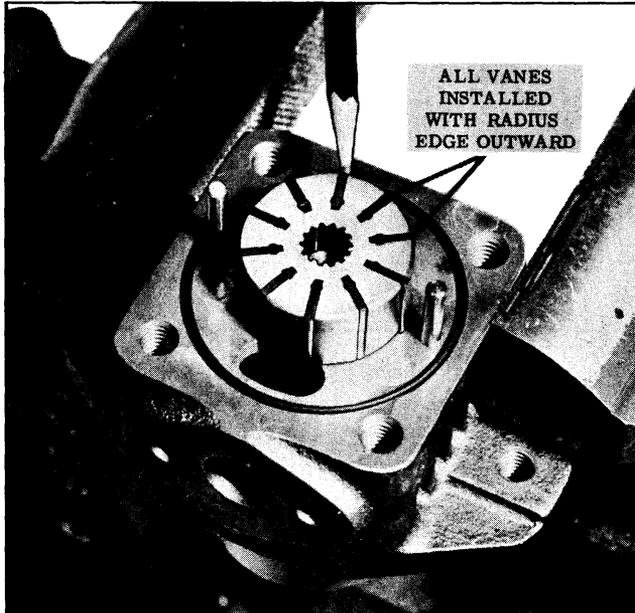

Fig. 5-82 Installation of Vanes
9. Assemble the vanes in the rotor slots with the radius edge facing outward. (See Fig. 5-82)